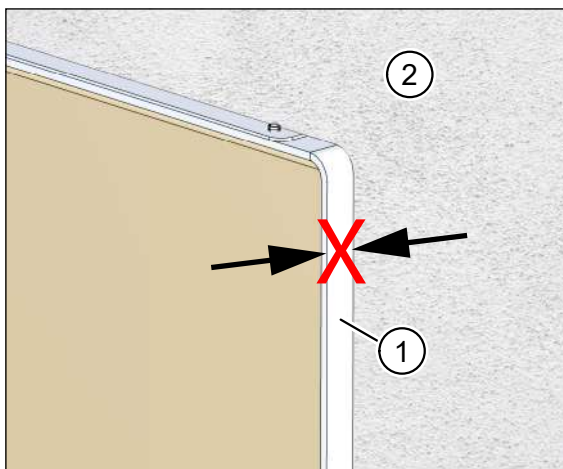

Fig. 31: Plastering trim protrudes over plaster
- The plastering trim (item 1 in Fig. 31) protrudes above the plaster (item 2 in Fig. 31).